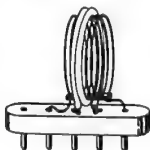

Fig. 1-27. Coil-pin hookup for 15-meter coil.
**15-Meter Coil**—Here too, the method of construction is the same. However, a different hook-up is used to provide series tuning, as shown in Fig. 1-27.